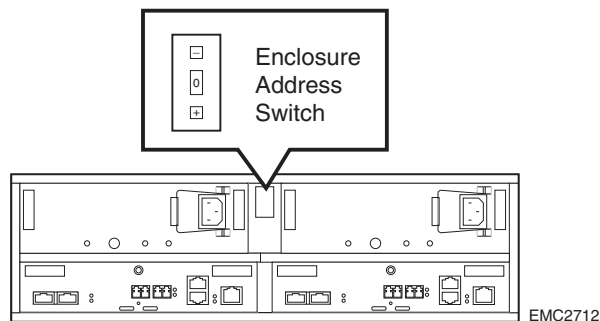
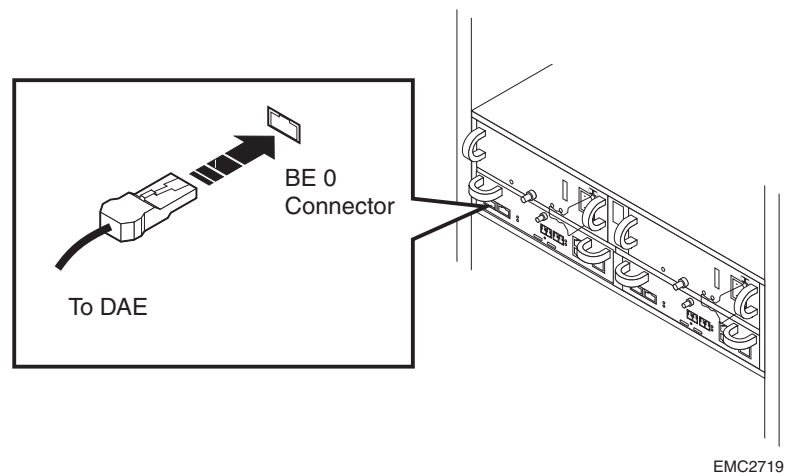
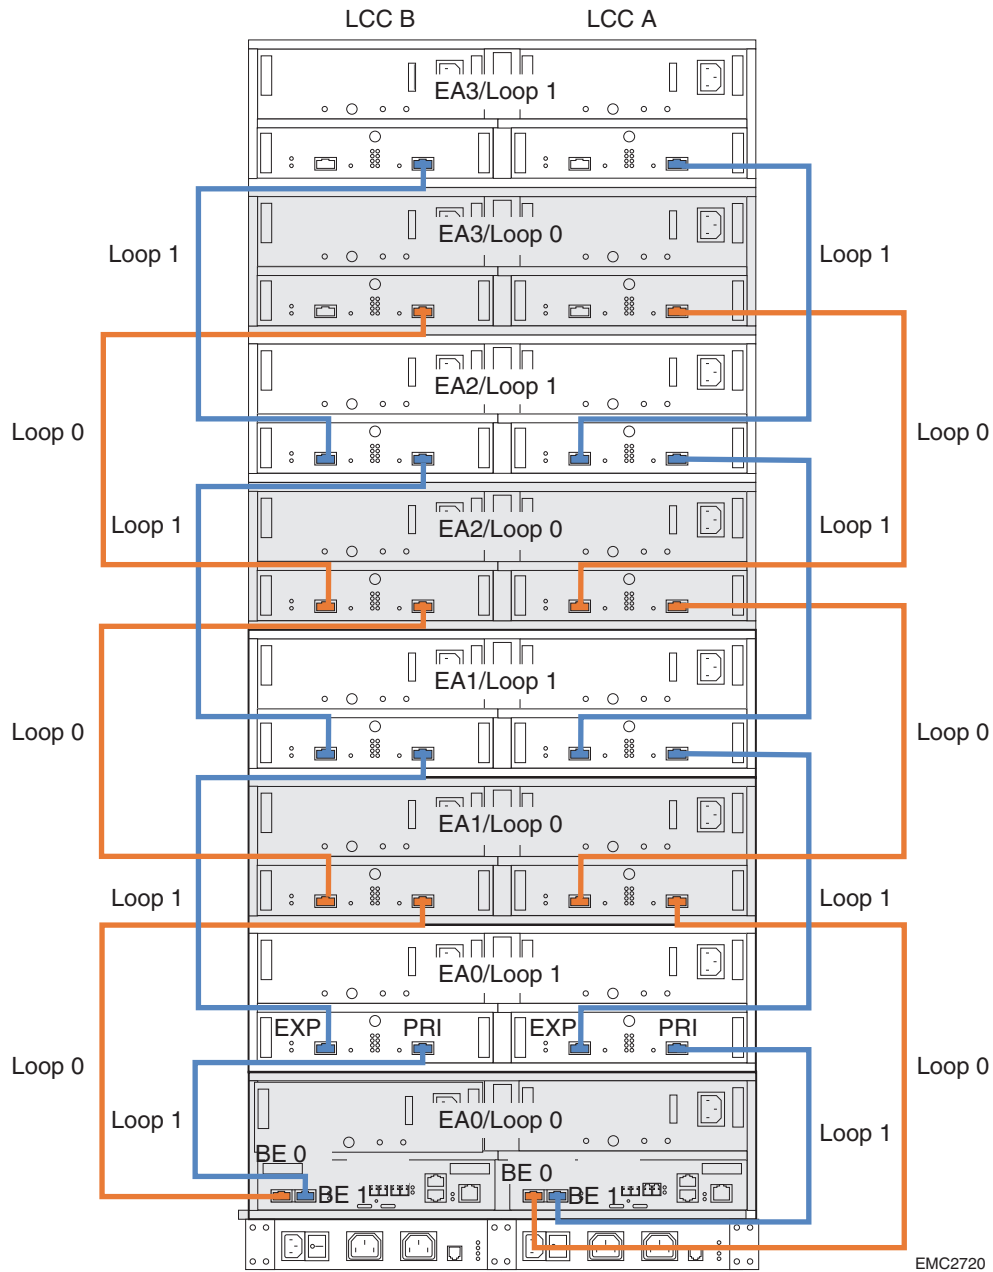

Figure 2-1 CX500-Series Enclosure Address Switch
Figure 2-7 Connecting a CX500/CX500i DPE2 to Another Disk Enclosure
Figure 2-8 Cabling CX500/CX500i and DAE2 Disk-Array Enclosures Together
1. Make sure the enclosure address for the CX500/CX500i is set to 0. Refer to Figure 2-1.
See Figure 2-1 and Figure 2-8 as necessary.
1. Attach copper cables from the CX500/CX500i DPE2 to additional disk enclosures, as shown in Figure 2-7 and Figure 2-8.
4. Cable the remaining disk enclosures together as shown in Figure 2-8.